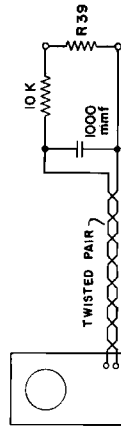

Figure 35. Connection of Oscilloscope
6. Connect a sweep generator to the converter and an oscilloscope across diode load R39 (see Figure 35). Check the peaks of the response for symmetry. Re-adjust T2 if necessary. (The signal generator and meter may be used for this purpose.)
4. Connect an oscilloscope across diode load R39, as shown in figure 35.